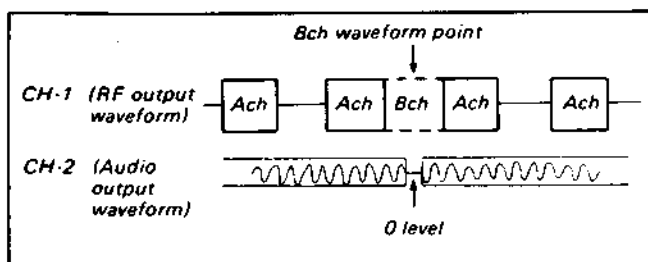
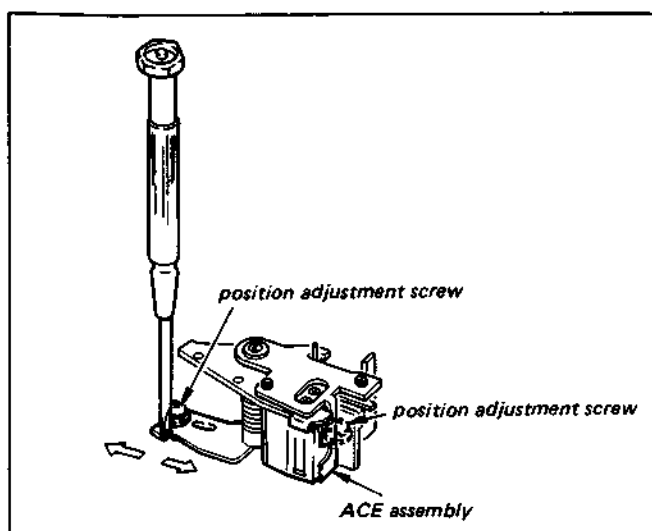

Fig. 4-12
Fig. 4-13
- 3) Turn the tracking control knob back and forth, and confirm that the output waveform level is maximum at the center click position, and that the 0 level of the audio signal is at the point where the RF output waveform Bch waveform appears, as shown in Fig. 4-12.
Set the tracking control knob at the center detent position and loosen the two ACE assembly position adjustment screws ①. As shown in Fig. 4-13 slide the ACE assembly with a screwdriver until it is in the position shown in Fig. 4-12 and the RF output waveform is maximum. Tighten the screws ① when this position is obtained.